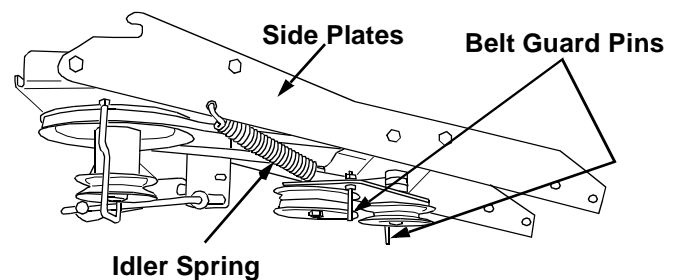
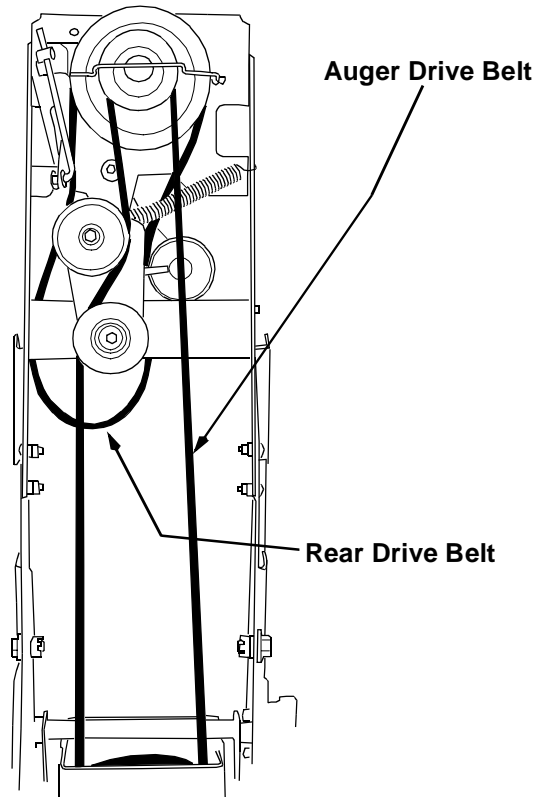

Figure 3
Figure 5
11. Attach the snowthrower drive belt to the rear idler bracket assembly. Loosen the belt guard pins located on the front idler bracket assembly and route the belt between the pulleys as shown. See Figure 3 and Figure 5.
NOTE: Place the spring hook end over the bolt and position it between the two nuts located on the bolt. Hook the opposite end of the spring into the hole located towards the bottom of the RH side plate. See Figure 3.